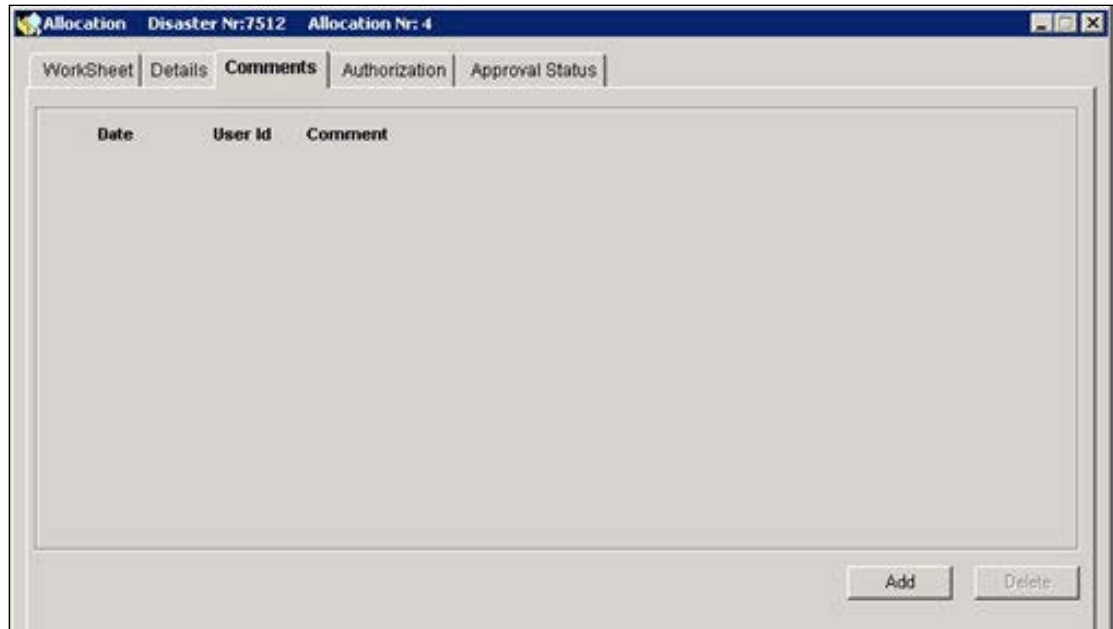

Figure 10-15: Mitigation > Funding > Allocations > Comments Tab
20. Click the **Comments** tab (Figure 10-15).